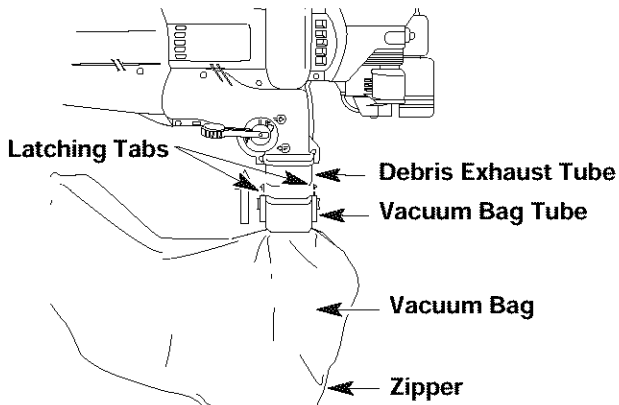

Fig. 4
2. Slide the vacuum bag tube over the debris exhaust tube on the housing. Push the tube until the latching tabs on both sides click into place, securing the bag on the unit (Fig. 4).